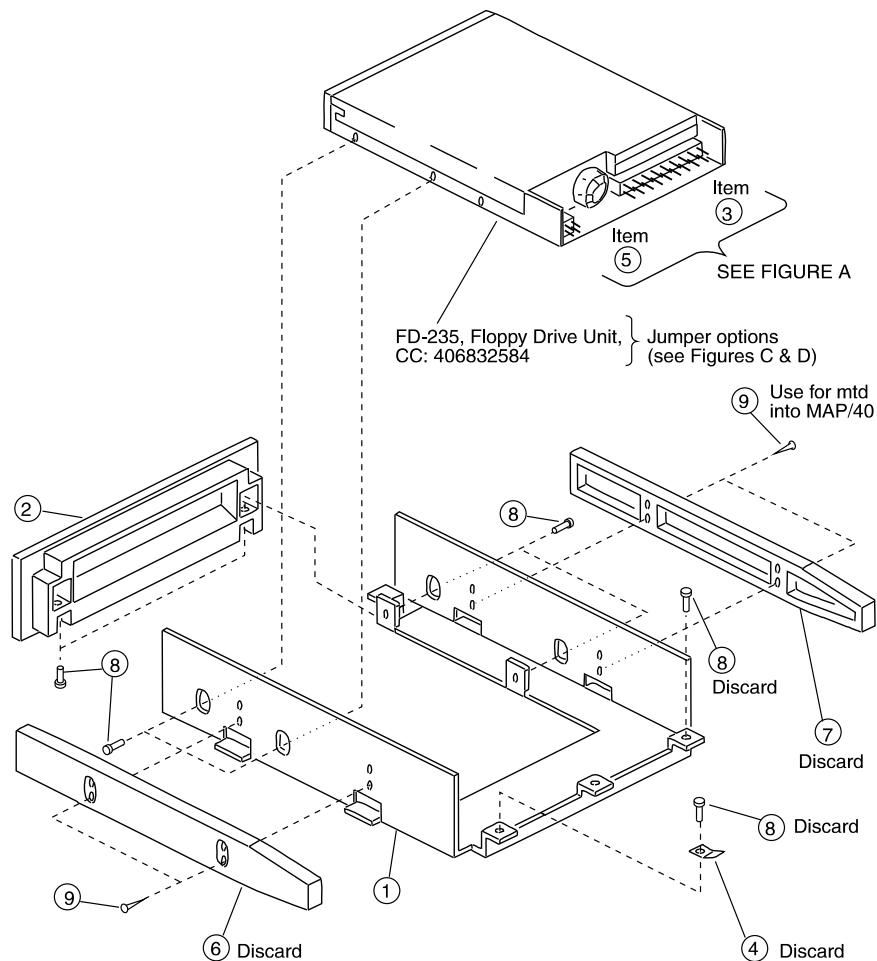

Figure B-9. Floppy Disk Drive Assembly
13. Remove the four 3 millimeter Phillips head screws that secure the drive unit (FD-235) to the 5.25" FDD hardware mounting kit. These screws are identified as item(s) #8 in Figure B-9.
14. After the screws are removed, slide the drive unit back to clear the front bezel shown as Item 2 in Figure B-9. Upon removal, place the FDD upside-down with the printed circuit board facing up on an ESD-protected surface.